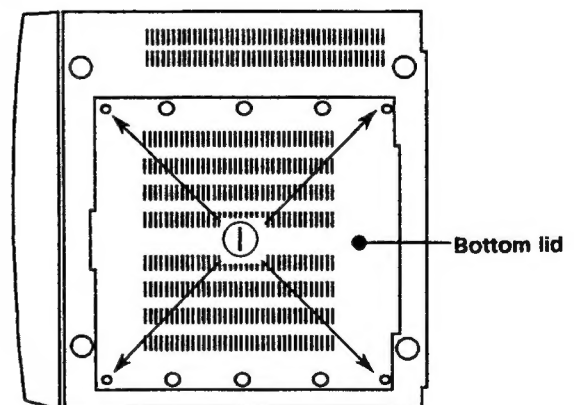

Fig. 5 (Bottom surface view)
- (1) Set the TV set sideways as shown in Fig. 5. In this case, lay soft cloth, etc. under the set in advance to prevent any damage to the exterior part.
- (2) Remove the four screws ① and dismount the bottom lid.
- (3) Shift the Main PCB as required.